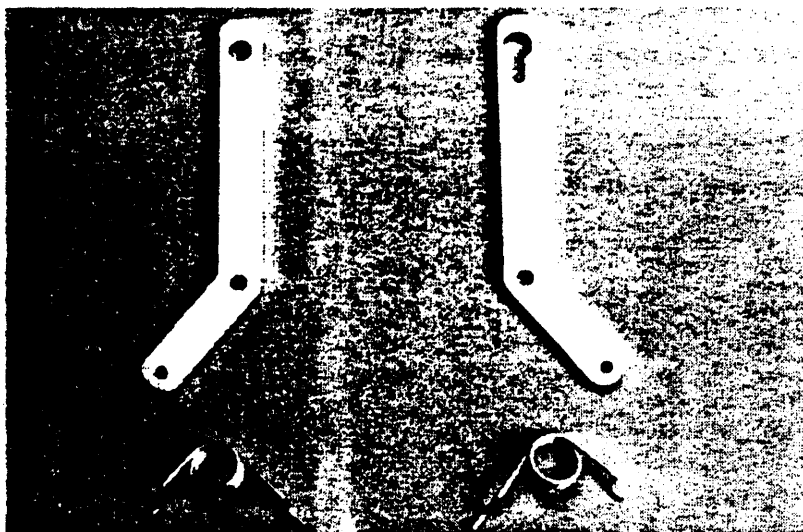

Figure 6-20. Bail-Arm and Spring Identification
- 1.** When reassembling the bail assembly, be sure to note the left-and right-hand characteristics of the bail arms. See figure 6-20.